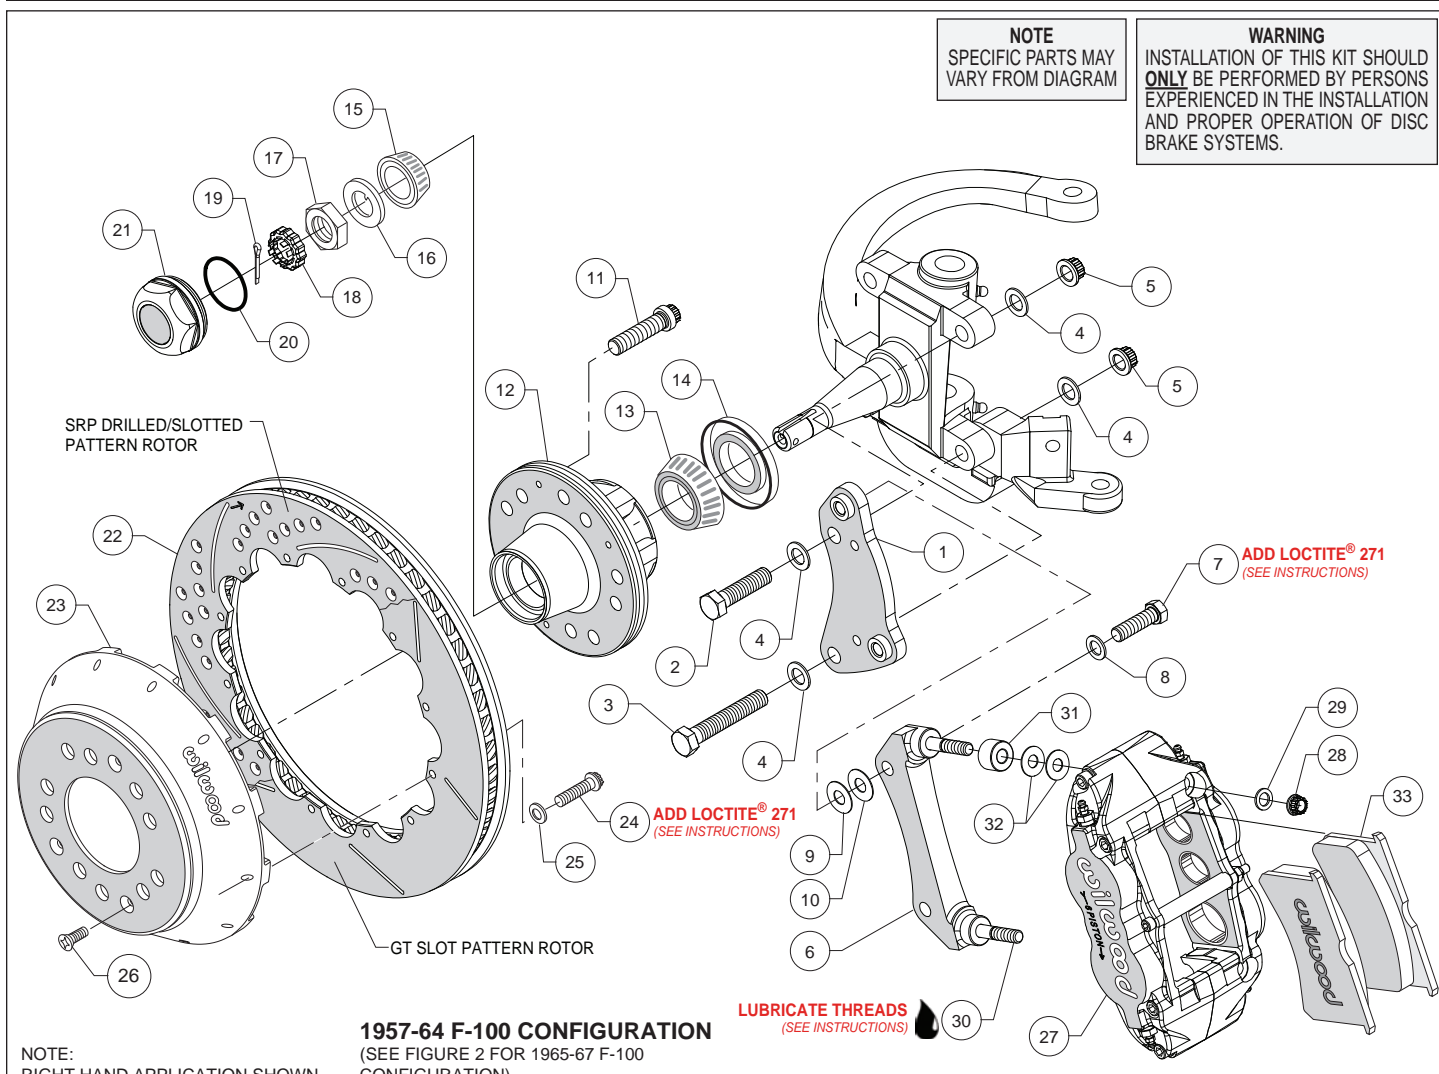
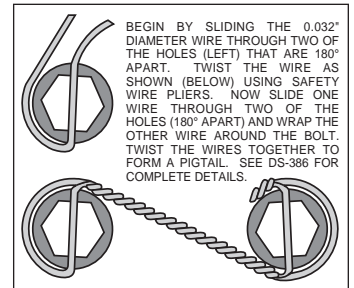
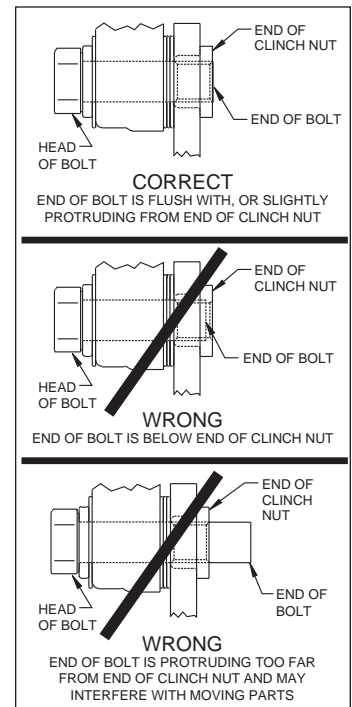

Figure 1. Typical Installation Configuration, Model Years 1957-1964
Figure 4. Safety Wire Diagram
Figure 5. Clinch Nut Engagement Diagram
Assembly Instructions (numbers in parenthesis refer to the parts list, on the preceding page and Figures 1 and 2). **CAUTION:** All mounting bolts must fully engage clinch nuts. Be sure to check that all bolts are either flush or protruding through flanged side of clinch nut after shimming, Figure 5.
- Orient the spindle bracket (1) as shown in Figure 1 or 2, and Photo 1, and install using bolts (2 and 3), washers (4) and nuts (5). Temporarily tighten the mounting bolts. Ensure that the flanged heads of the clinch nuts in the bracket are facing outboard, Photo 1. **NOTE:** The bracket must fit squarely against the mount bosses on the upright. Inspect for interference from casting irregularities, machining ridges, burrs, etc. Torque lock nuts (5) to 65 ft-lb.
- The caliper mount radial bracket (6) should initially be installed with clean, dry threads on the mounting bolts. Orient the bracket as shown in Figure 1 or 2, and Photo 2. Install onto the spindle bracket using bolts (7), and washers (8). Initially place one .030 thick shims (9) on each bolt between the radial and spindle brackets, Figure 1 or 2. Temporarily tighten the mounting bolts. Later, after the caliper alignment has been checked, the mount bolts will be secured using red *Loctite*® 271.
- Screw dust cap (21) into hub (12), Photo 8. Friction created by the o-ring (20) on the dust cap keeps it from unscrewing. **NOTE:** *The O.D. of the existing OEM spindle washer may be larger than the I.D. of the dust cap not allowing it to seat against the hub face. Therefore, use the spindle washer (16) supplied with the kit instead of the OEM washer.*
- Orient the rotor (22) and the hat (23) as shown in Figure 1 or 2 and Photo 9. Attach rotor to hat using bolts (24) and washers (25). Using an alternating sequence, apply red *Loctite*[®] 271 to the threads, and torque to 155 **in-lbs**. For an added measure of security, the bolts may be safety wired using standard 0.032 inch diameter stainless steel safety wire as shown in Figure 4. Refer to Wilwood's data sheet DS-386 (available at www.wilwood.com/Pdf/DataSheets/ds386.pdf) for complete safety wire installation instructions.
- **NOTE:** *This kit contains distinct right and left hand calipers that must be mounted in a specific direction, as described below.* Lubricate the caliper mounting studs (30) with lightweight oil. Initially place one spacer (31) and two .035" thick shims (32) on each stud between the caliper and the bracket, as shown in Figure 1 or 2, and Photo 11. Mount the caliper (27) onto the bracket (6) using lock nuts (28) and washers (29), Figure 1 or 2. Ensure that the caliper is mounted so the largest pistons are at the rotor exit end of the caliper, in relation to the direction of rotor rotation. Temporarily tighten the lock nuts and view the rotor through the top opening of the caliper. The rotor should be centered in the caliper, Photo 12. If not, adjust by adding or